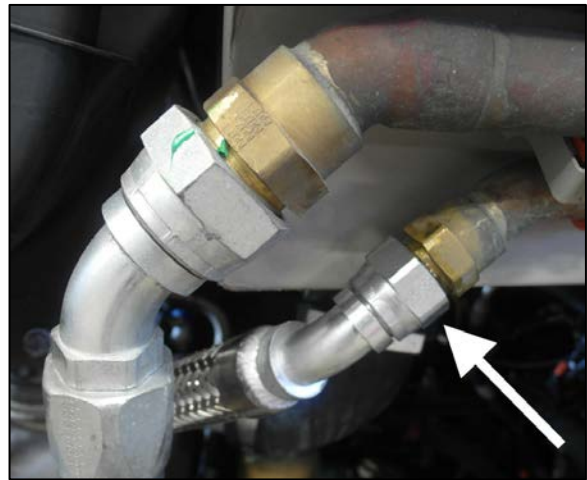
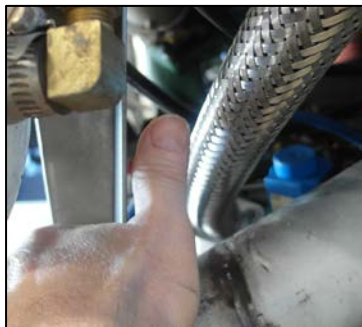

Figure 11
Figure 9
20. Install top end fitting of the AC compressor discharge hose on the top tube fitting. Tighten the hose top end fitting (Figure 11).
When tightening, orientate the hose elbow (Figure 11) to make sure keeping a minimum of 1" (25 mm) of clearance with all other components surrounding the new hose (Figure 9, Figure 10 and Figure 12).